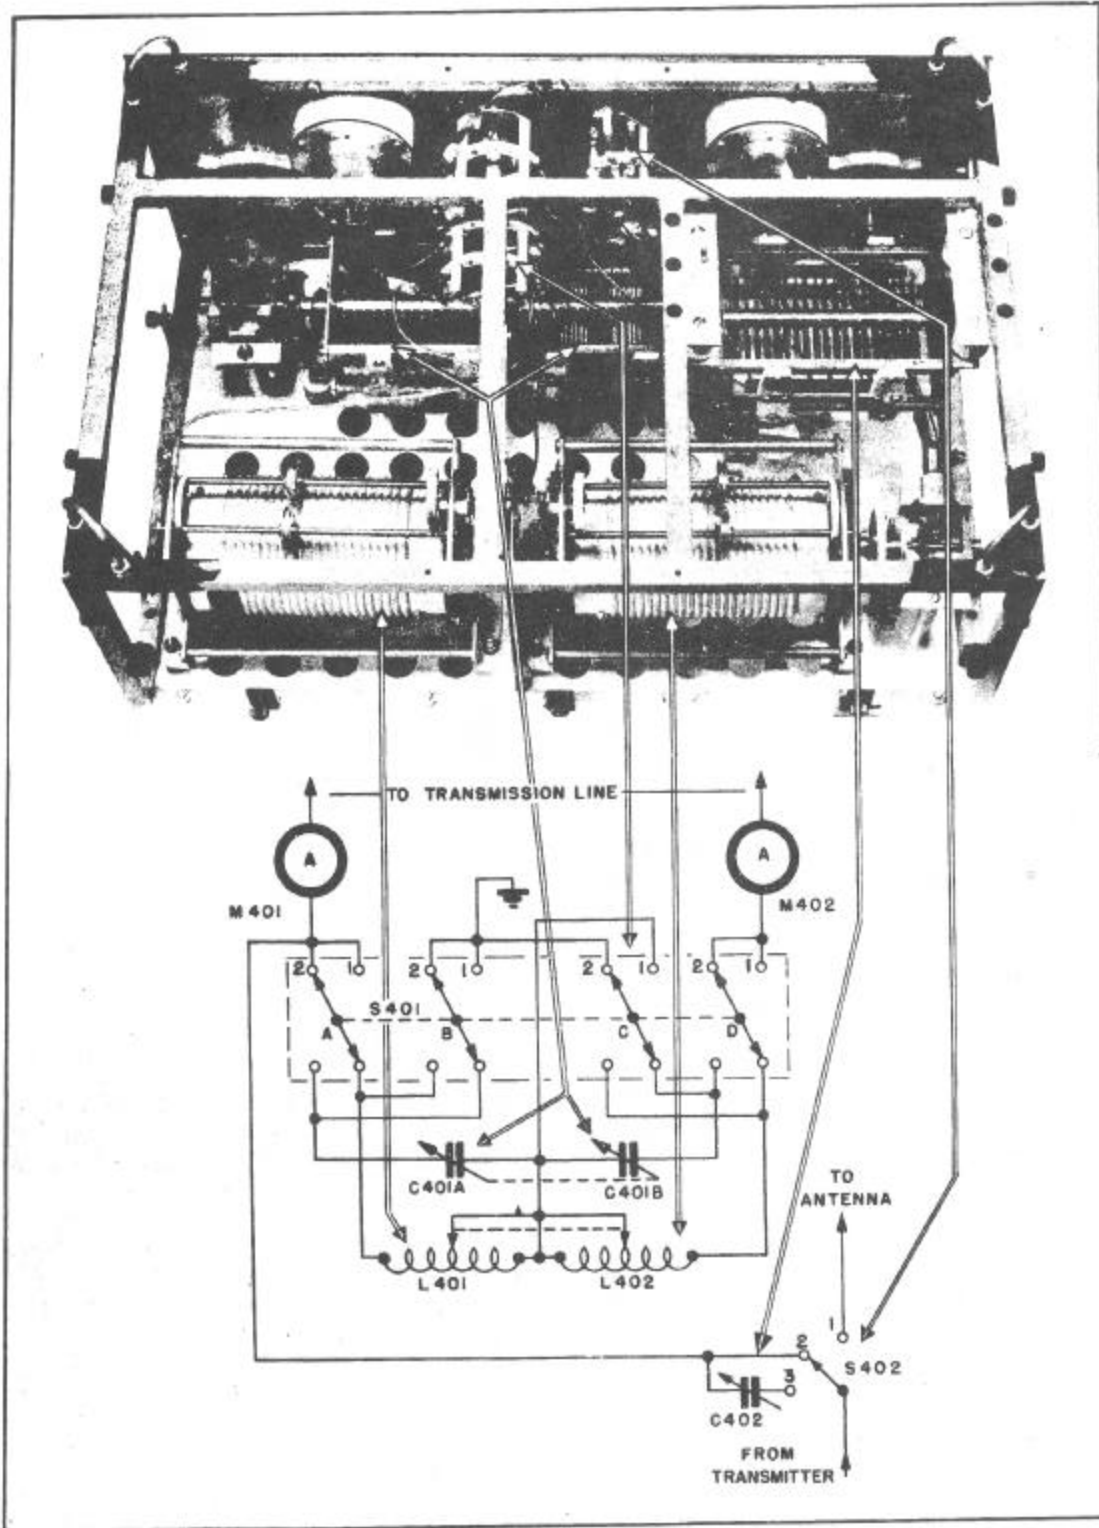

Figure 2-6—Transmission Line Coupling Unit Schematic
**7. TRANSMISSION LINE COUPLING UNIT. (See Figure 2-6).**